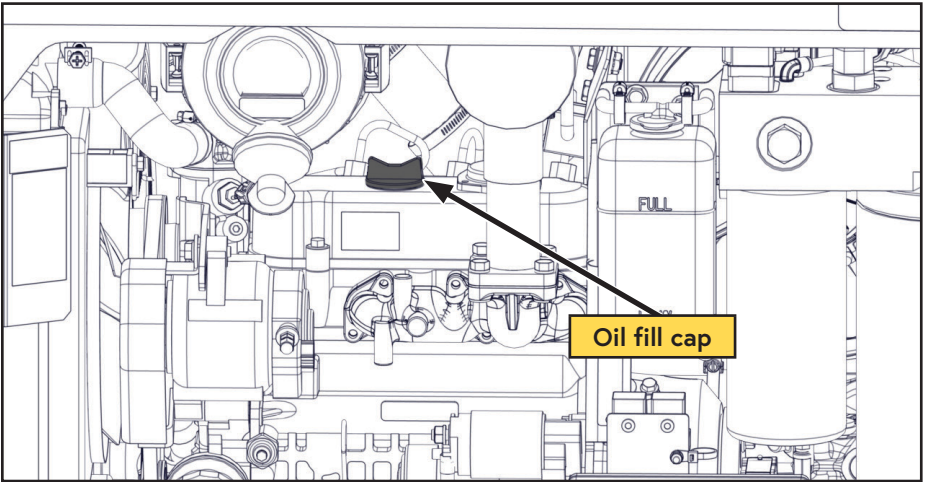

Figure 44 — Add engine oil
- ☐ Remove the oil fill cap, and using a funnel, add the supplied oil into the crankcase (capacity is 0.98 USG (3.7 L when dry) (Figure 44).